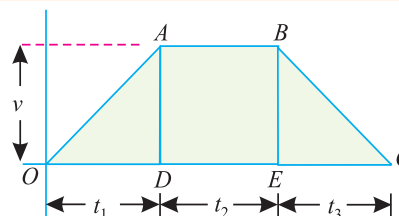

Fig. 17.8.
**Solution.** Let *OABC* represent the velocity-time graph in which *OA* represents the period of acceleration, *AB* the period of uniform velocity and *BC* the period of retardation as shown in Fig. 17.8.